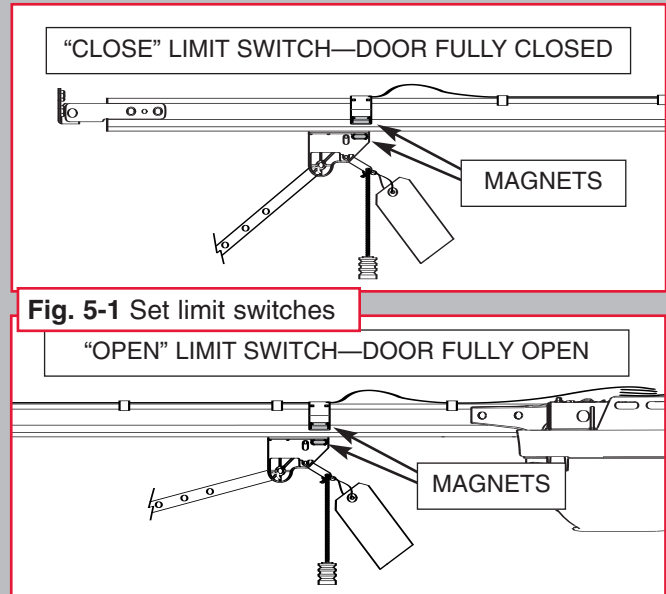

Fig. 5-1 Set limit switches
- With door fully closed, slide "CLOSE" limit switch until it is aligned with the carriage magnet. (Fig. 5-1)